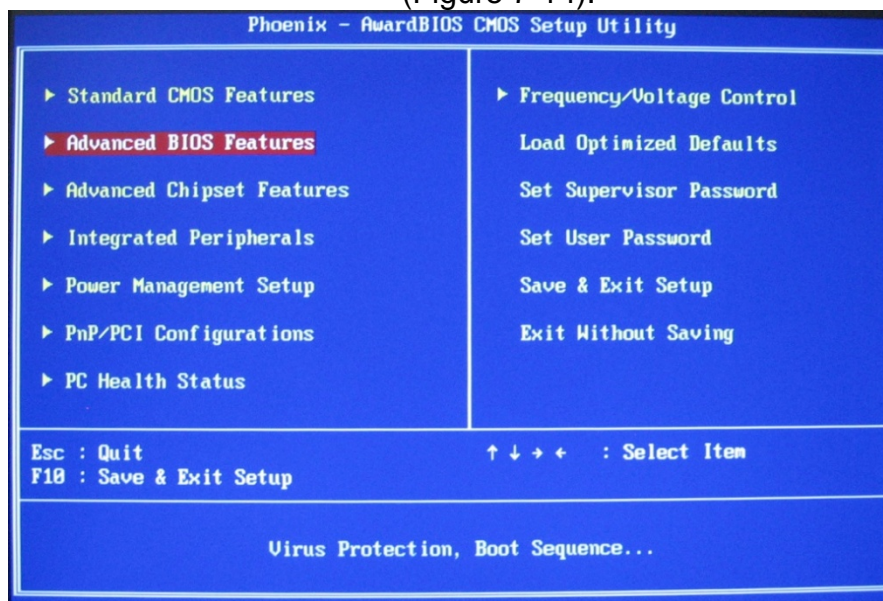

Figure 7-14 Advanced BIOS Features
4. Press **Escape** to return to the **Main BIOS Setup Utility** screen. Scroll down to **Advanced BIOS Features**, Press **Enter**. (Figure 7-14).